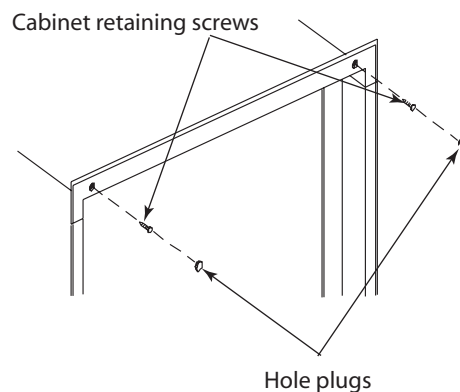

Figure 32. Top retaining screws and hole plugs.
5. Secure the top of the cabinet with two screws and install hole plugs. See Figure 32.